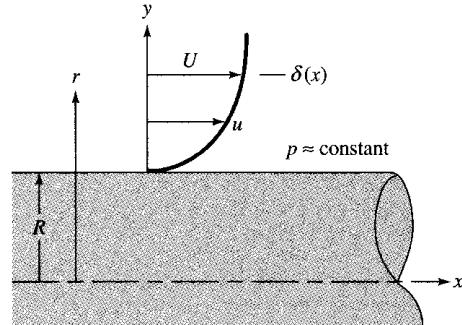

Fig. P7.13
**7.13** Derive modified forms of the laminar boundary-layer equations for flow along the outside of a circular cylinder of constant  $R$ , as in Fig. P7.13. Consider the two cases (a)  $\delta \ll R$ ; and (b)  $\delta \approx R$ . What are the boundary conditions?
**Solution:** The Navier-Stokes equations for cylindrical coordinates are given in Appendix D, with “x” in the Fig. P7.13 denoting the axial coordinate “z.” Assume “axisymmetric” flow, that is,  $v_\theta = 0$  and  $\partial/\partial\theta = 0$  everywhere. The boundary layer assumptions are: